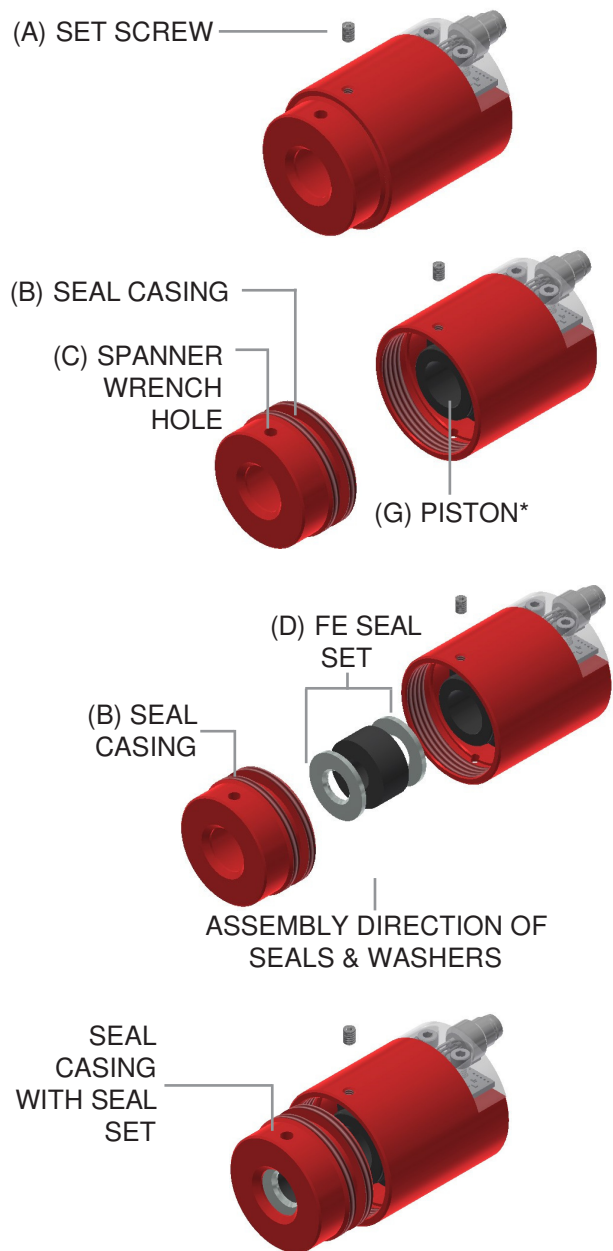

Figure 3. Installation of Seals
- 1.3. Seal set contains elastomer seals and washers. Verify that seals and washers are the same sizes. Assemble seal set (D) into seal casing (B) per Figure 3.